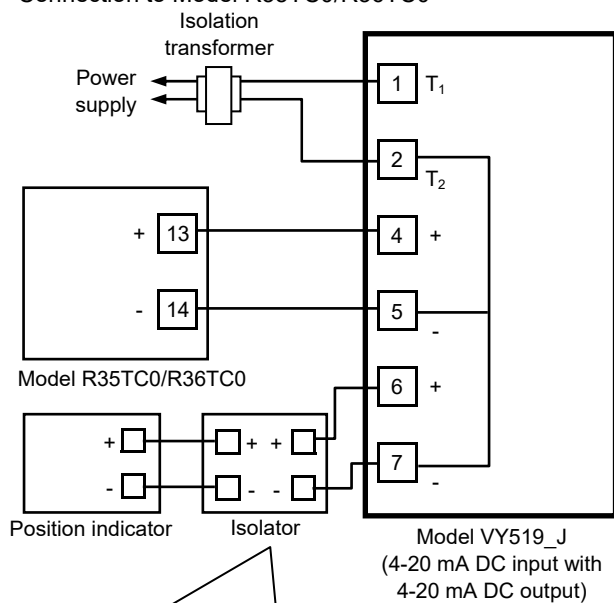

Figure 14. Connection example: Single Model VY519_J00 with Model R35TC0/R36RC
- * Terminals 2, 5, and 7 are connected inside the actuator. To connect to a device (PLC, position indicator, etc.) with its terminals not isolated inside, externally isolate (between the ACTIVAL and the device). Otherwise, a loop is formed for the common line and can damage the circuit of the ACTIVAL. (R series controllers including Model R35/R36 shown in Figs. 14 and 15 are isolated inside.)